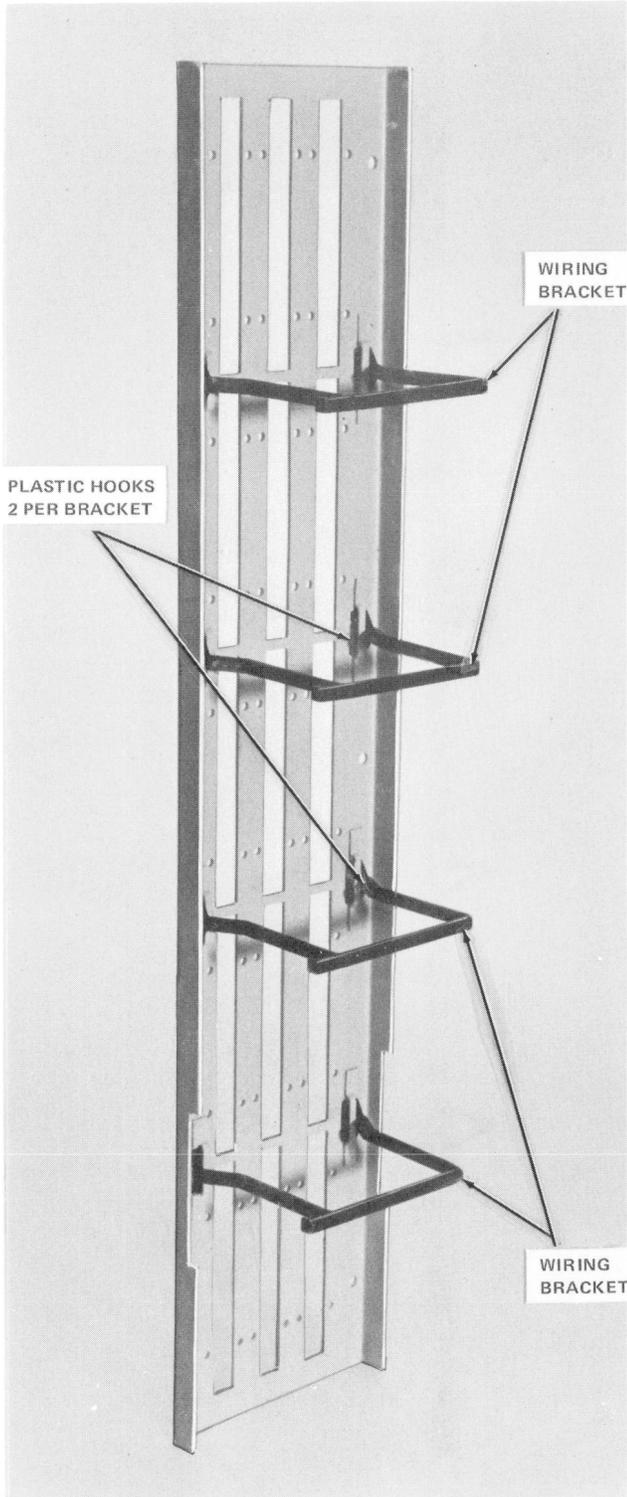

Fig. 18—Test/Talk Panel With Wiring Brackets
- (2) Remove the panel face from the frame.
- (3) The wiring bracket shown in Figure 18 may or may not need to be removed depending on the accessibility of the component to be replaced.
Note: The wiring bracket is plastic and removal is accomplished by spreading the two plastic hooks away from the sheet metal bracket. See Fig. 18.